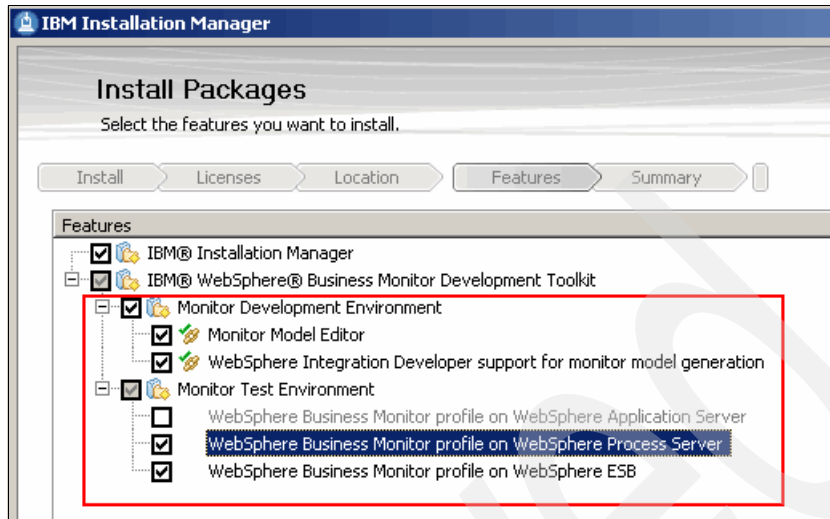

Figure 3-7 Install Packages
6. In the Install Packages – Features panel (Figure 3-7 on page 66), choose from the following features to be installed: